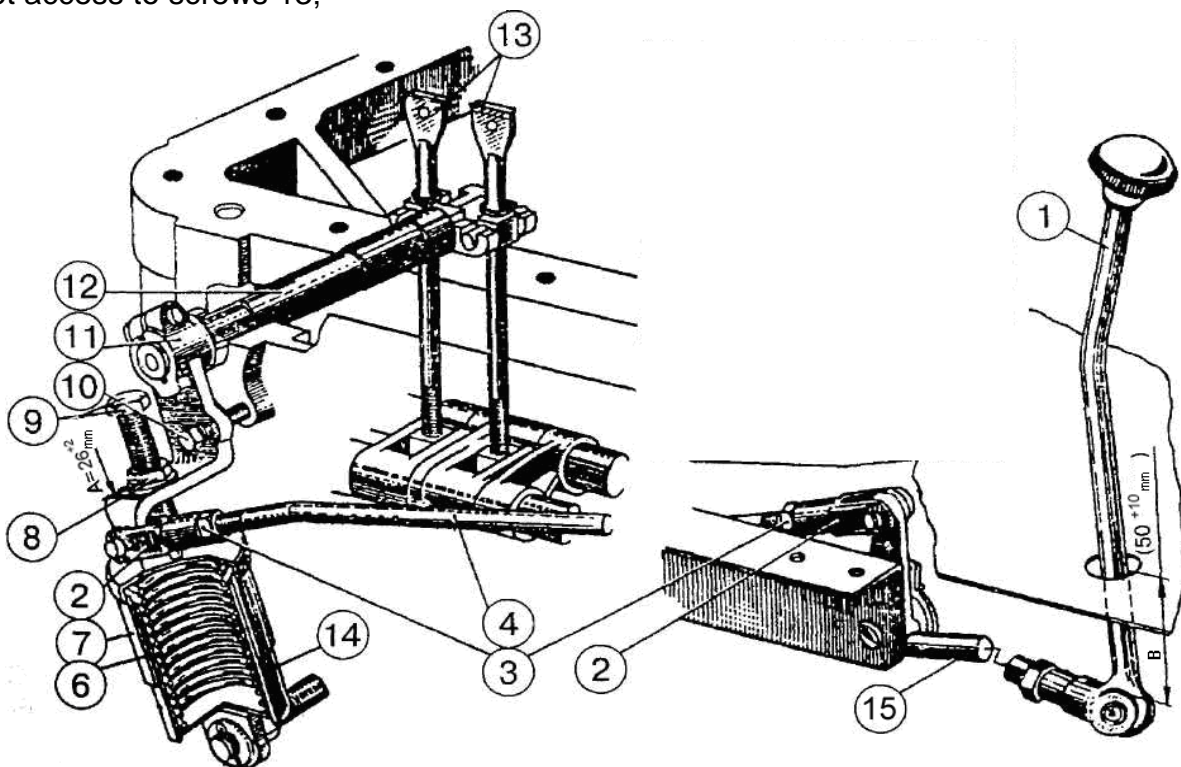
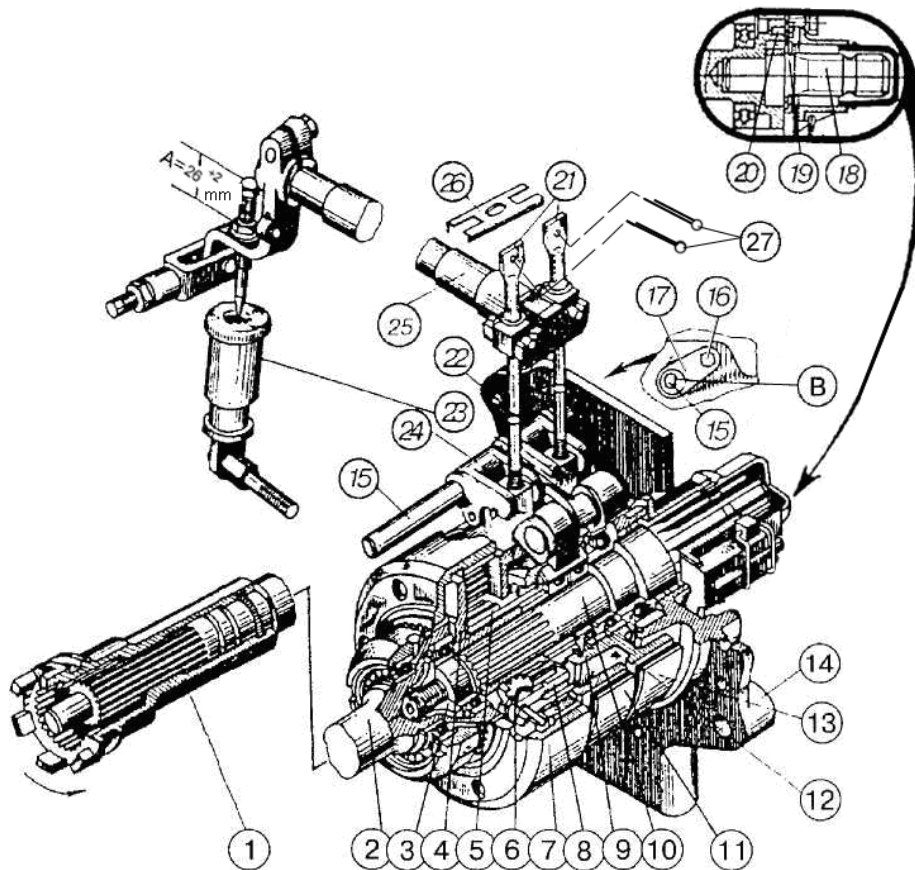

Figure 1. Rear PTO control:
Figure 2. Rear PTO planetary reduction gear:
1. Put eccentric axle 15 to initial position, so that flat "C" (fig. 2) is to the right vertically, and fix it with stop plate (17) and bolt (16);
2. Disconnect tie-rod 4 (fig. 1);
6. Remove stop plate 26 (fig. 2), screw up in turn adjusting screws 21 with torque from 8 to 10 N•m, then unscrew each screw by 2 turns and it is necessary screw the screws so that screw heads are placed parallel to direct axis of the tractor;
10. Mount tie-rod 4 (figure 1); changing the length of tie-rods 4 and 15 set rolling zone of lever 1 in the middle section of the control panel groove, and adjust the size B (50^{+10} mm).
Upon adjustment completion install to adjusting screws 21 the stop plate 26 and cotters 27 (figure 2), cover of rear axle hatch, cotter pin tie-rods 4 and 15 (figure 1), and bolt 9 by nuts 3 and 8.
After several external adjustments eccentric axle 15 (figure 2) can adopt extreme left position (the flat "C" will be on the left in vertical position), it means that external adjustment margin is exhausted. In this case turning eccentric axle anti clockwise, put it into initial position (vertical flat on the right), after that perform adjusting operations, as described above (during assembly at the manufacturer or after PTO repair).
When adjustment is made correctly, lever 1 (figure 1) in position "on" or "off" shouldn't reach control panel groove edge by at least 30 mm, and accurately pass through neutral position.
In some lots of tractors is possible the absence of external readjustment mechanism of control of PTO (position 15,16,17 figure 2). In this case do adjustment as shown above for adjustment of the control of PTO after repair or during assembly at the manufacturer. Tractors with small cab have the dimension "B" 50-60 mm. Efficiency of PTO brakes, absence of slippage depend only on spring mechanism, primarily on availability of free operation zones, and relative levers. PTO slippage means that spring mechanism or levers face additional hindrance when shifted, due to absence of lubrication in joints, increased staining, abutting (touch) against adjacent tractor parts, etc.